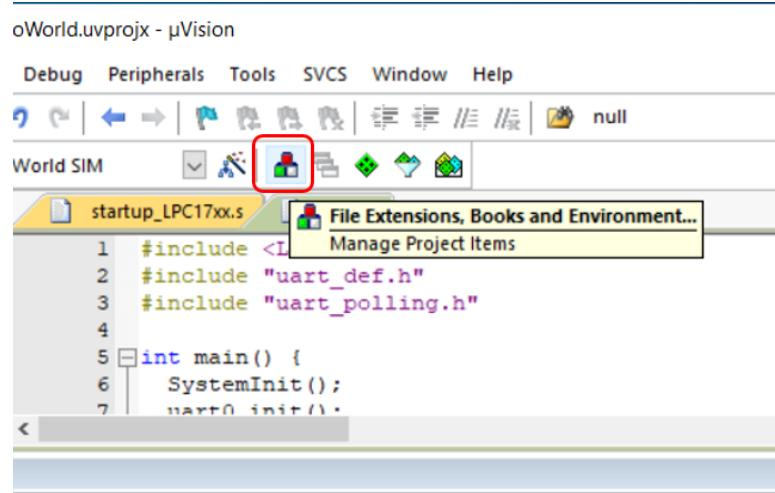

Figure 7.25: Keil IDE: Manage Project Items Button
- Press the Managing Project Item button (see Figure 7.25).